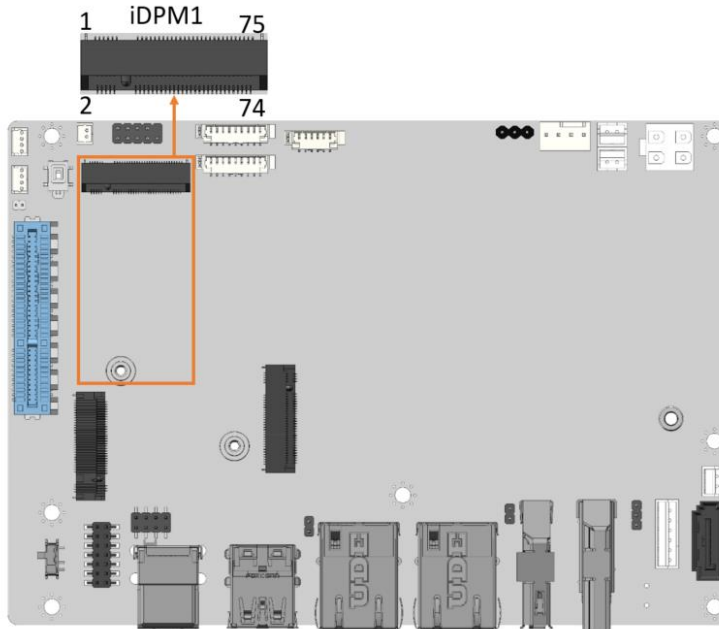

Figure 3-22: iDPM Slot Location
- CN Location:** See Figure 3-22